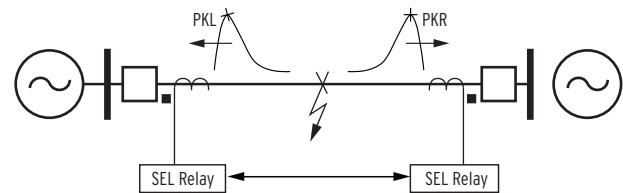

Figure 25 Relays Exchanging Peak Information Via 87L Communications Channel
When high-accuracy IRIG-B time is available, the SEL-411L uses a type D traveling wave (TW) algorithm to compute fault location. A dedicated analog-to-digital converter samples both sets of three-phase currents connected to the relay terminals (IAW, IBW, ICW, IAX, IBX, ICX) at 1.5625 MHz. Each SEL-411L in a two-terminal scheme extracts high frequency content and, based on a setting selection, uses one set of three-phase currents for fault location calculation. When an 87L or communications-assisted trip occurs, each relay terminal exchanges data along with a time stamp, and the SEL-411L relays then use this information to calculate a fault location. Figure 25 shows the traveling waves captured at each terminal.